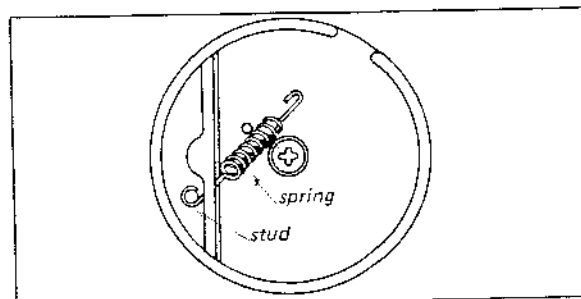

Fig. 2-5. Tension spring installation
2. Hook the spring to the stud of the tuning-capacitor drive drum as shown in Fig. 2-5.
4. Install the drum as shown in Fig. 2-5.